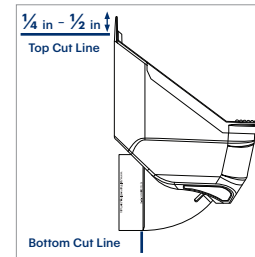

Figure 4
4. Position your Leaf Eater Advanced next to your existing pipework and use it as a template to mark top and bottom cutting lines. Cut the pipe where you have marked. Ensure all cut edges are clean and smooth (Figure 4).